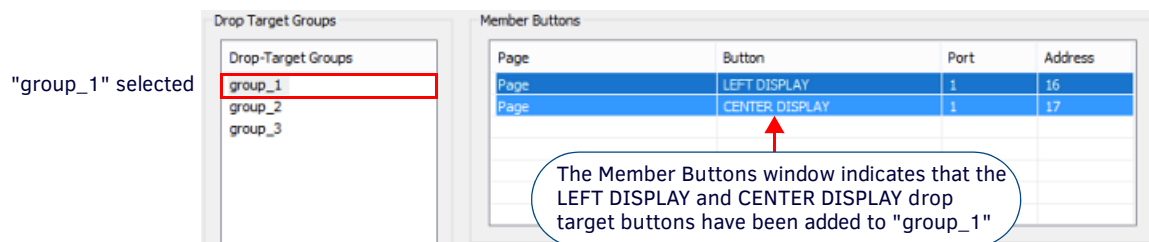

FIG. 260 Drop-Target Groups dialog - the LEFT DISPLAY dropTarget button is a member of "group_1"
5. The *Member Buttons* window indicates that the LEFT DISPLAY and CENTER DISPLAY Drop Target buttons are "members" of the "group_1" Drop-Target Group (FIG. 260):